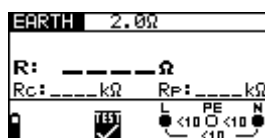

Figure 5.49: Earth resistance measurement menu
- The probe (S) is positioned between the earth electrode (E) and auxiliary earth electrode (H) in the ground reference plane (see figure 5.49).
- The distance from the earth electrode (E) to the auxiliary earth electrode (H) is at least 5 times the depth of earthing electrode rod or the length of the band electrode.
Step 3 Follow the connection diagram shown in figure 5.49 to perform resistance to earth measurement. Use the **Help** function if necessary.